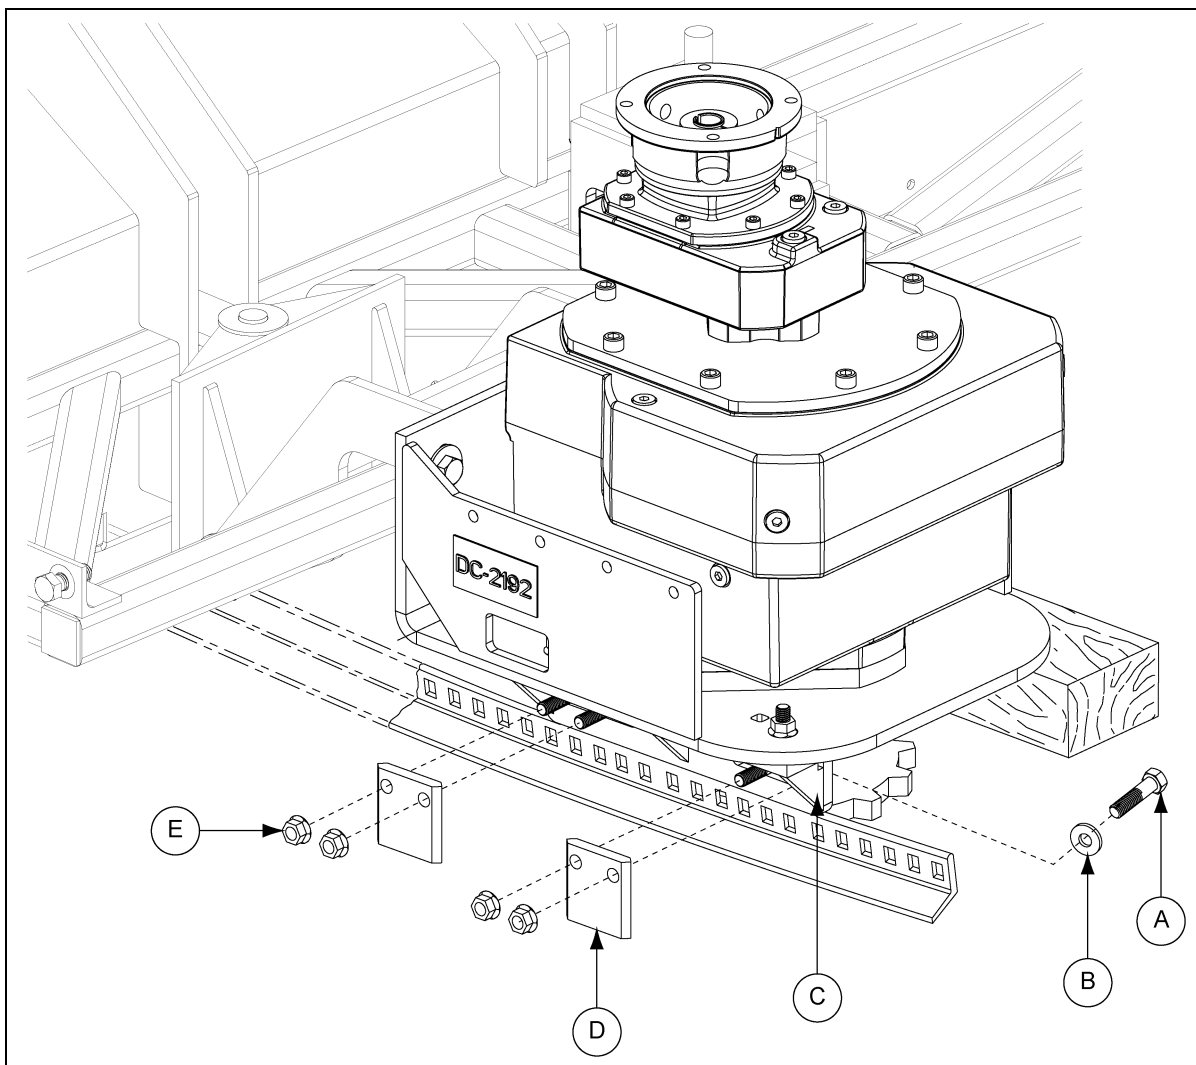

Figure 8G
1. Install the drive keepers (D) to the drive keeper mount plate (C) using hex bolts (A), flat washers (B) and flange nuts (E). (See Figure 8G.)